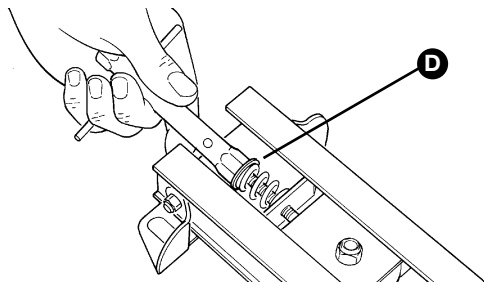

Figure 26
**1** Loosen the M8 nut **[D]** completely, as shown in figure 26.